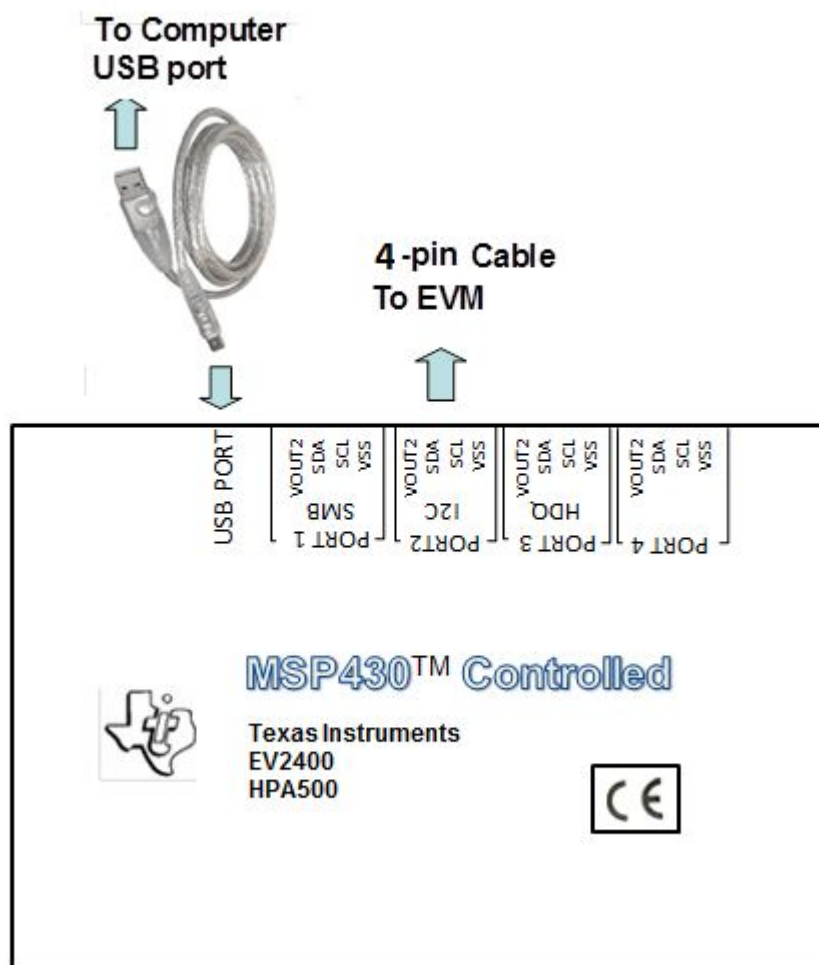

Figure 3. Connections of HPA172 Kit
Because the bq24261M has the watchdog timers enabled, it is recommended that you set the software's **Reset Watchdog Timer** to reset every 5 seconds. Otherwise, after 30 seconds of operation, the IC enters Default mode. Note that the 27-minute safety timer is not reset by this function and eventually times out if charging does not complete, unless the **Safety Timer Time Limit** is expanded or disabled via the GUI. One way to reset the safety timer is to allow the 30-second watchdog timer to expire. See Figure 3 in the data sheet for more information about the timers.
7. Connect J17 to EV2400 kit by the 4-pin ribbon cable. Connect the USB port of the EV2400 kit to the USB port of the computer. The connections are shown in Figure 3.